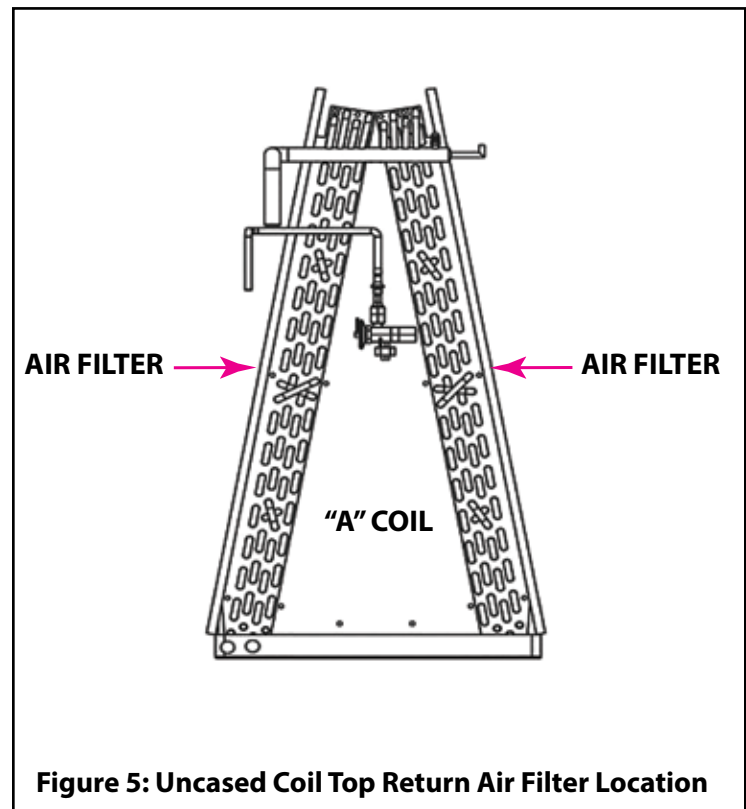

Figure 5: Uncased Coil Top Return Air Filter Location
All appliances need maintenance at the beginning of each heating season in order to operate properly. The annual service must be performed by qualified service personnel. The homeowner is expected to perform general maintenance and general cleaning of the exterior surfaces, clean dust from the louvers in the return air grille and replacement of the air filters. Air filters must be checked every month and replaced as needed. Homeowners/users must be instructed as to how to replace air filters for good preventive maintenance. Figures 2 and 3 show the location of the air filters for applications with a coil cabinet return air grille. Figure 5 shows the location of the air filter applications with a coil cabinet top filter.
5. Remove the air filter from the rack in the top of the coil cabinet (See Figure 5).